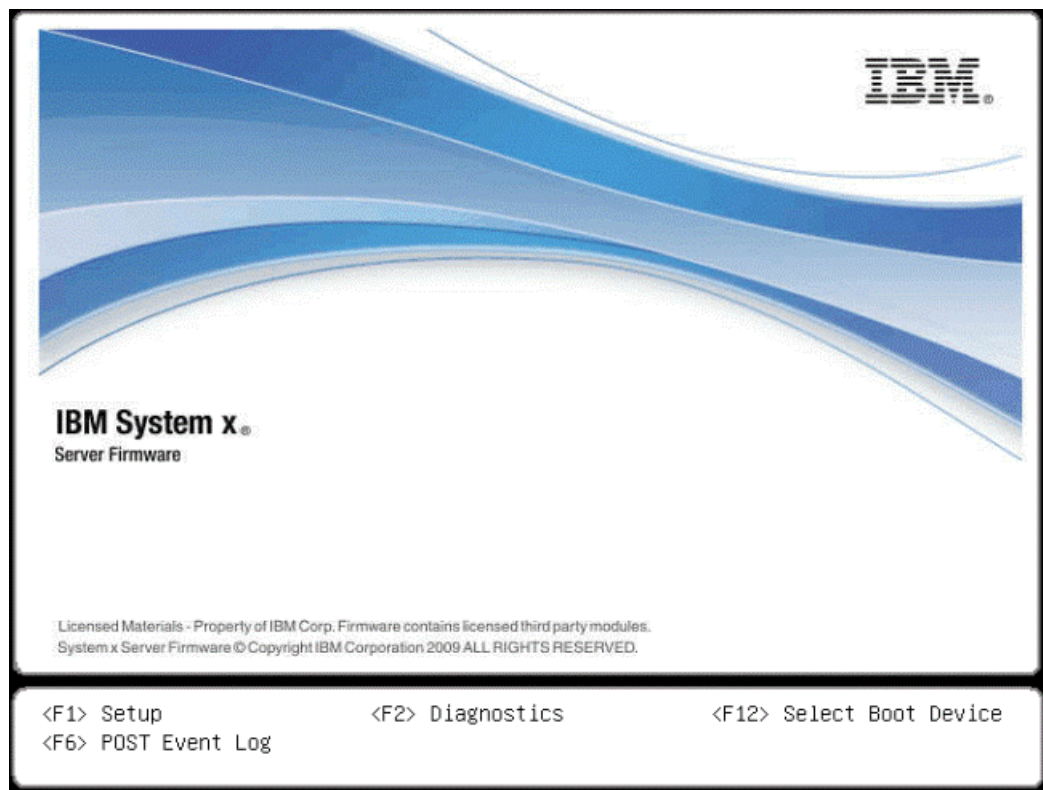
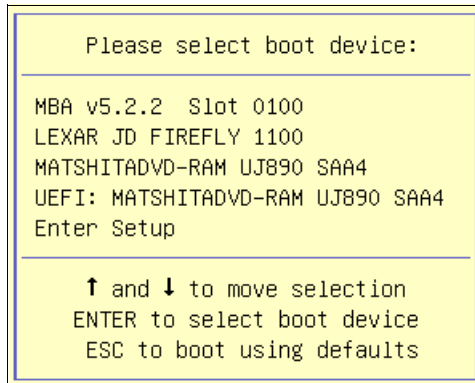

Figure 3-38 F12 to select Boot Device
Figure 3-39 Select DVD to install OS
18. Press F12 to select the boot device, then select the CD/DVD ROM (or appropriate source) to install the operating system, as shown in Figure 3-38 and Figure 3-39.